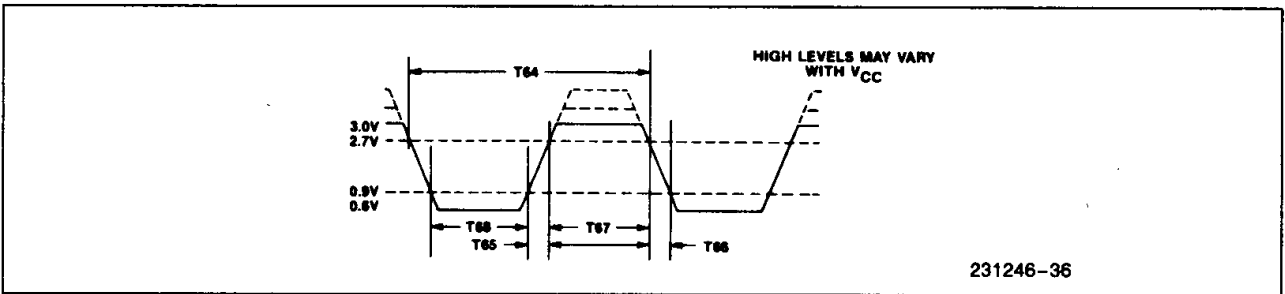

Figure 35. $\overline{\text{Rx}}\text{C}$ Input Voltage Levels for Timing Measurements *
15. 82C501 compatible levels, see Figure 35